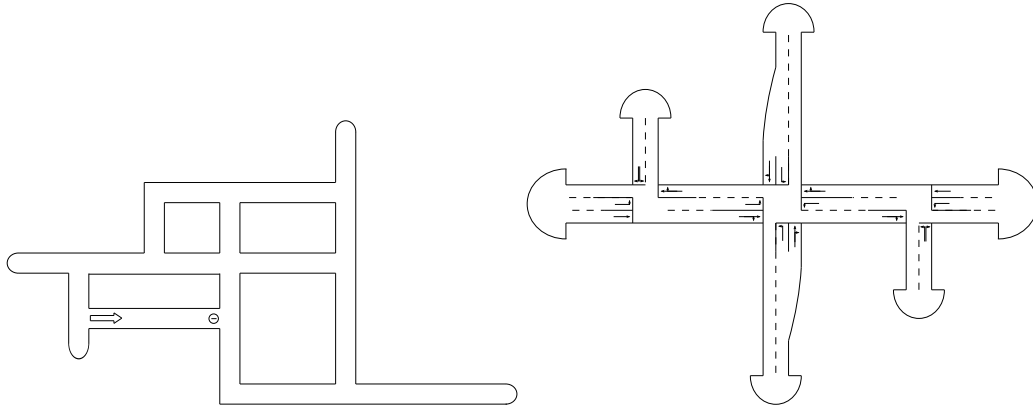

Figure 2: More complex urban scenarios
6. **(Optional.)** Assume one of the urban settings from Fig. 2 or come up with one of at least similar complexity. Assume at least one tank and at least four consumers for each road segment (the space between intersections plus the space between intersections and end of roads). Wells are located at the end of roads only.